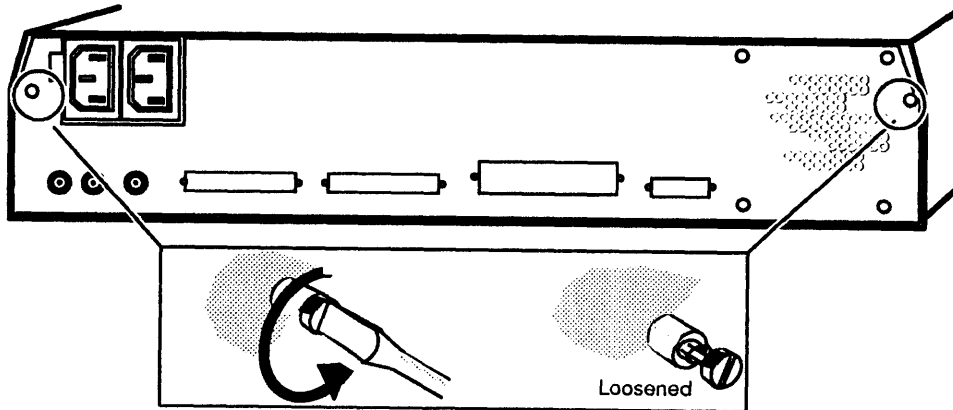

Figure 2-1 Loosening Two Screws that Attach the Tray Assembly to the Computer Unit Housing
2. Loosen the two screws on the rear panel as shown in Figure 2-1.